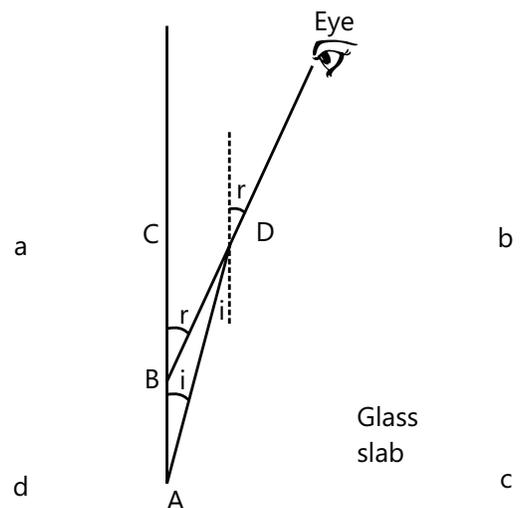

Figure 27.38
- (d) Let abcd be a glass slab (Fig 27.38) below which a mark A is put. After refraction, the rays from A will appear to come from B. As a result, B is the apparent image of A. Then refractive index of air w.r.t glass is given by